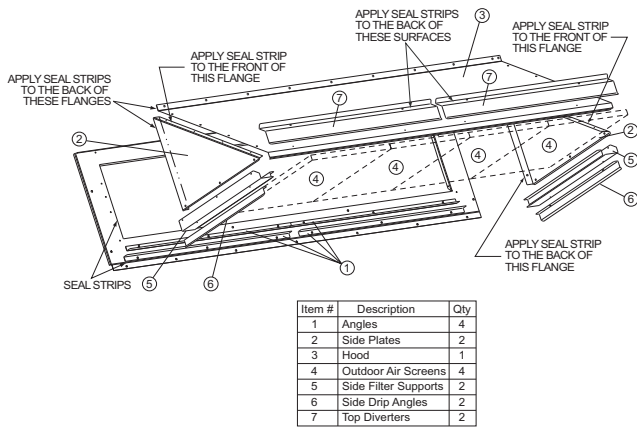

Fig. 15 — Hood Part Identification and Seal Strip Application Areas
See Fig. 15 for identification of the various parts of the hood assembly.
3. Apply seal strip to mating flanges on the side plates of the hood (see Fig. 15).
5. Apply seal strip to mating flange of the hood (see Fig. 15).